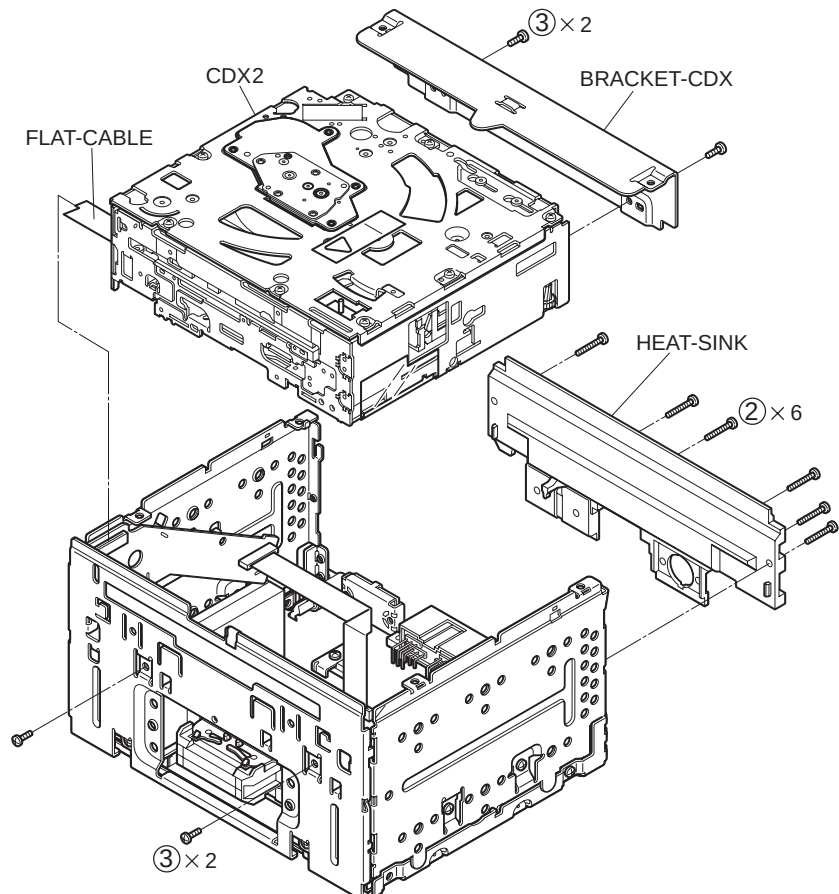

Fig.2
2. Removal of CDX2 (See Fig.2)